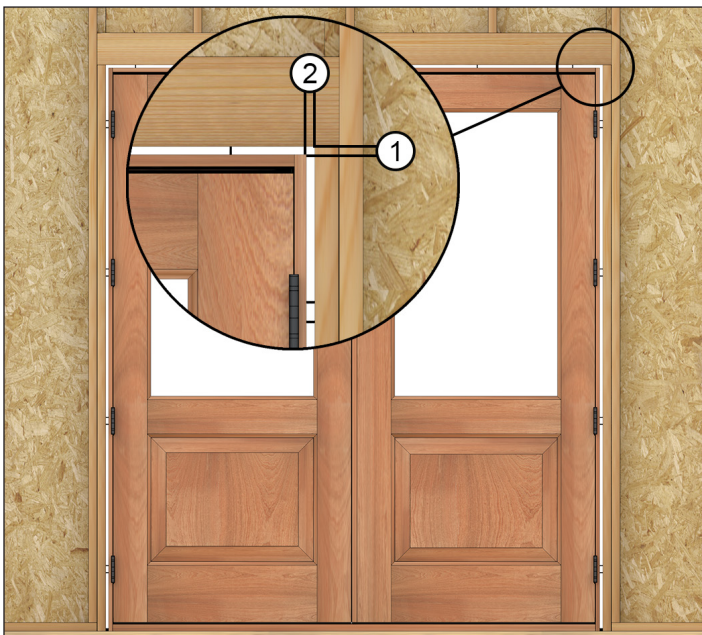

Figure 1 Rough Opening Clearance
1. Rough openings (RO) should be $\frac{1}{2}$ " (13) higher and 1" (25) wider than the outside measurement of the frame ($\frac{1}{2}$ " on each side of the frame). See Figure 1.